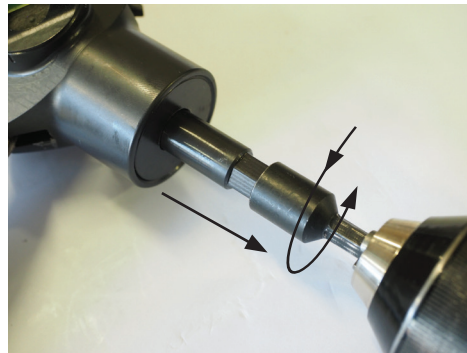

Fig. 2.1 If cutters are pre-installed, use your drill to ensure that both the hex drive and cutter end of the cutter assembly are fully retracted.
2.1 Ensure that the cutter end is fully retracted inside the cutter assembly. If not, reverse the cutter end into the assembly by engaging the drill (reverse) on the Drill Jig hex drive (**Fig 2.1**). The cutters should NOT protrude from the cutter assembly.